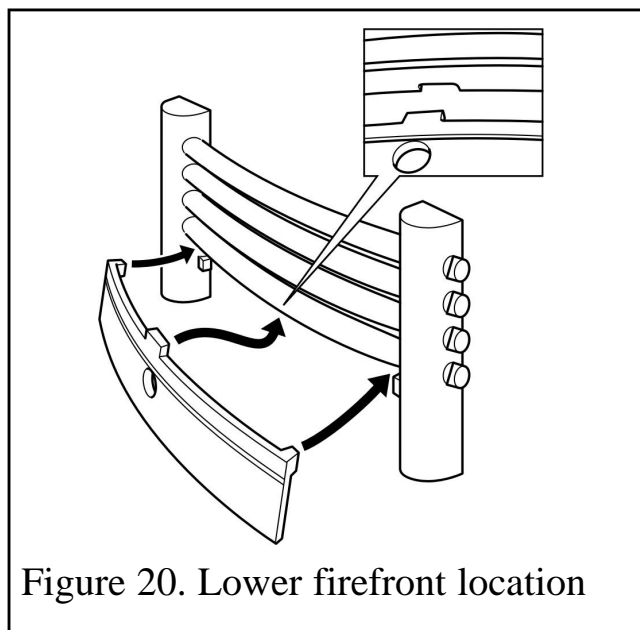

Figure 20. Lower firefront location
2. On models with a two piece firefront place the lower front cover casting / ash pan below the front casting. For the 'Coast' model see figure 20.